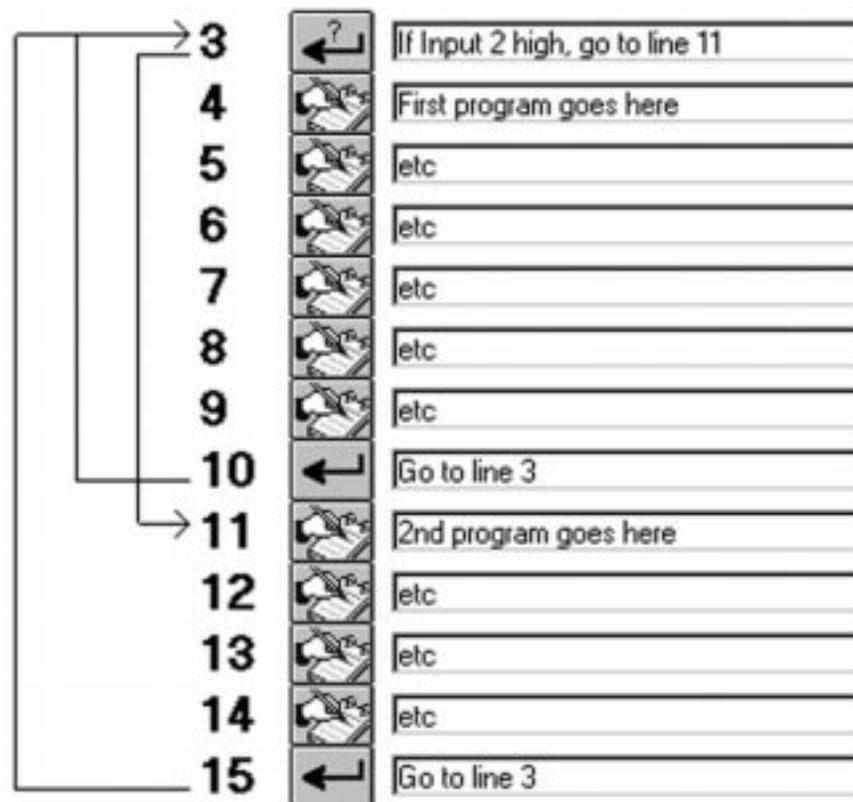

Figure 63
- It allows the use of multiple programs within the 100 line program space. It may be that the system is to do is two completely different things depending on an input. If each of these tasks requires 4 instructions, the program should look like Figure 63.